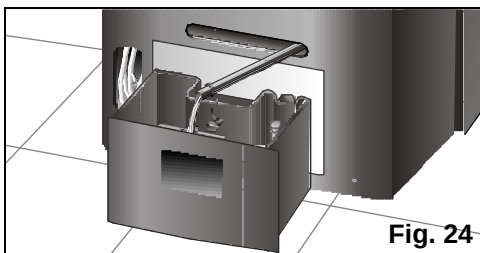

Fig. 24
- ☐ Before tilting it, empty the condensed water from the internal tank by extracting the water drainage pipe from its housing and removing the plug, **Fig. 24**. Place a receptacle (or the appliance's removable tank) at the end of the water drainage pipe to collect the condensed water or lead the pipe to the nearest drain. Do not forget to replace the plug and reinsert the pipe in its housing when the tank is empty.